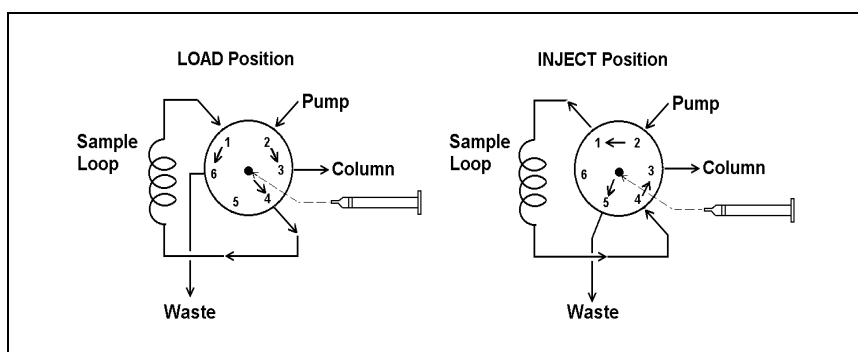

Figure 3-6. Injection Valve Schematic
Inside the Rheodyne injection valve, eluent flows through one of two paths depending on the position of the injection valve knob (see Figure 3-6).
Before filling the injection valve sample loop, set the Rheodyne injection valve knob to **LOAD** (see Figure 3-6)
1. ***Direct injection into the valve:*** Set the injection valve to its **LOAD** position. Insert the syringe into the needle port on the injection valve (see Figure 3-6). Overfill the sample loop with several sample loop volumes. Excess sample will flow out through the waste line. Leave the syringe in the needle port until the injection valve knob is turned to **INJECT**.